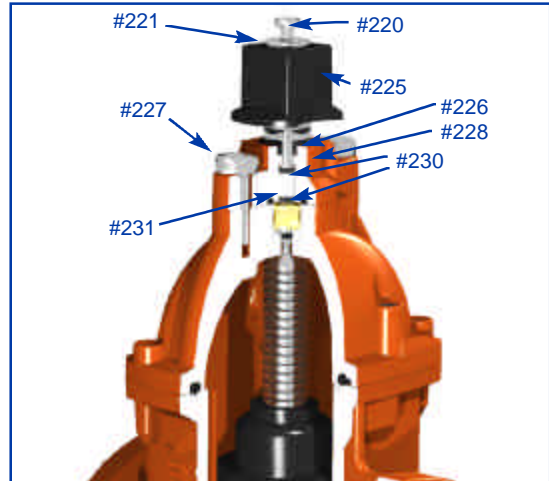

Fig.2
WRENCH NUT, GLAND FLANGE / WIPER RING, GLAND FLANGE O-RING AND STEM O-RING REPLACEMENT (Fig.2)
1. Remove the Wrench Nut/ Handwheel Bolt (#220) and Wrench Nut/Handwheel Washer (#221) using a 1/2", (13mm) wrench, for 2 1/2" to 4" valve sizes, and 11/16", (17mm) wrench for 6" to 12" valve sizes. Remove the Wrench Nut (#225) or NRS Handwheel (#222). (See Fig.1, and Fig.2)